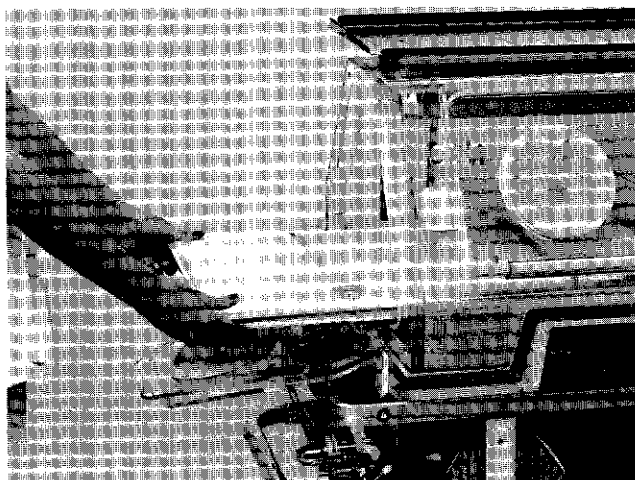

FIGURE 4.4 MATTRESS TRAY OPERATION
- D. CHECK MATTRESS TRAY.** Open the Head End Access Door. Slide the tray out of the Incubator until it reaches its mechanical stop (Figure 4.4). Check that the tray is stable when force is applied to the extended portion. Return the mattress tray to the Incubator. Check that the restraining straps are in good working order. Close the access door.